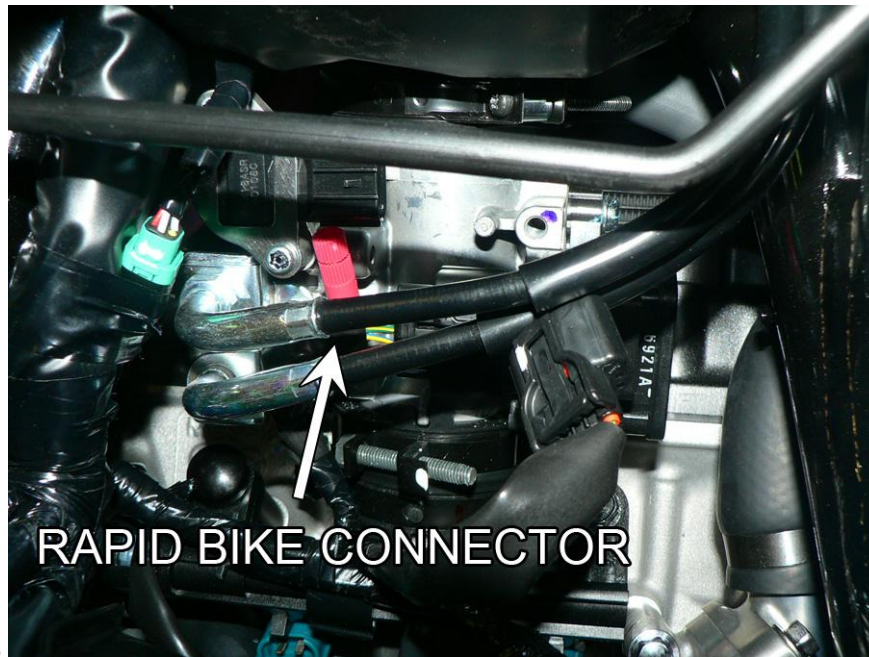

Fig.4
7. Connect the green wire coming from the Rapid Bike wiring to the red wire with yellow strip using the provided posi-tap connector (**Fig.4**).